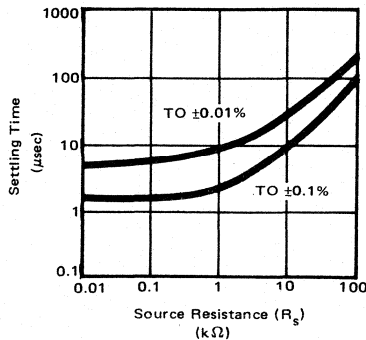

FIGURE 5. Settling time vs source resistance for 20 volt step change.
- For 20 volts between switched channels,  $R_{SOURCE} = 1000\Omega$ . See Figure 5 for settling time vs. source impedance ( $R_S$ ).
The source must then redistribute this charge, and the effect of source resistance on settling time is shown in Figure 5. This graph shows the settling time for a 20 volt step change on the input. The settling time for smaller step changes on the input will be less than that shown in Figure 5.